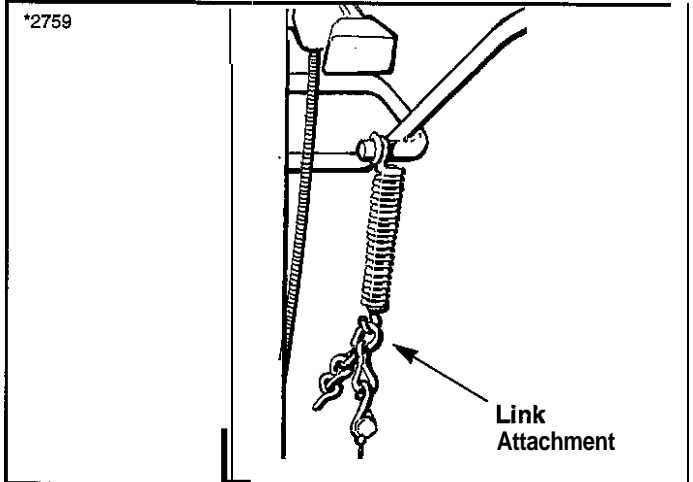

Figure 56. Clutch Cable Tension Adjustment Spring
5. With the unit turned off, check the clutch lever for proper operation by operating the power drive bail lever. Make sure that there is no slack in the clutch cable when the bail lever is fully depressed against the handle of the unit. If the cable is slack, release the bail lever and move the spring end down one link on the chain connector, and recheck for tautness. Adjust tension until clutch cable is taut when bail lever is depressed (Figure 56).